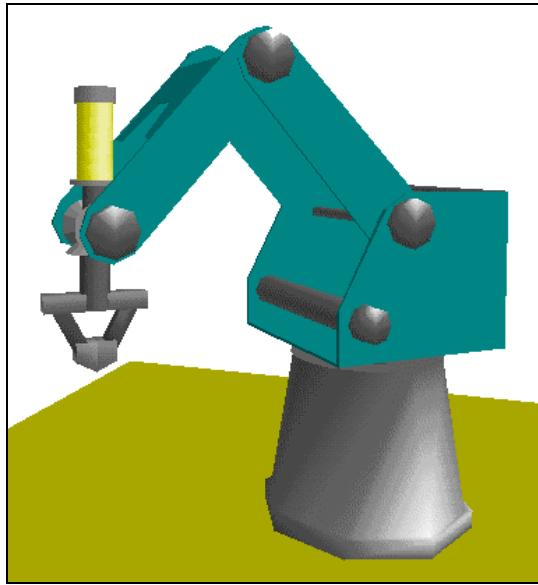

Figure 3-7: Position #6
- 10** Moving only the wrist roll axis, bring the arm to the position shown in Figure 3-7, and record this as position #6.